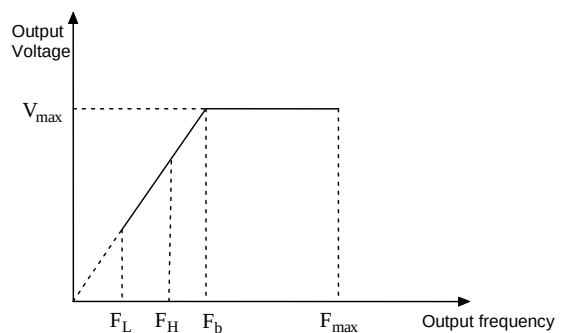

Fig.6-1 Characteristic parameters
Max output frequency is the highest permissible output frequency of the drive, as shown in Fig. 6-1 as F_{max} ;
Max output voltage is the highest permissible output voltage of the drive, as shown in Fig. 6-1 as V_{max}
Upper limit of frequency is the highest permissible operating frequency of the user setting, as shown in Fig. 6-1 as F_H .
Lower limit of frequency is the lowest permissible operating frequency of the user setting, as shown in Fig. 6-1 as F_L .
Basic operating frequency is the Min. frequency when the drive outputs the max voltage in V/F mode, as shown in Fig. 6-1 as F_b
4. The Max. output frequency, upper limit frequency and lower limit frequency is as shown in Fig.6-1.